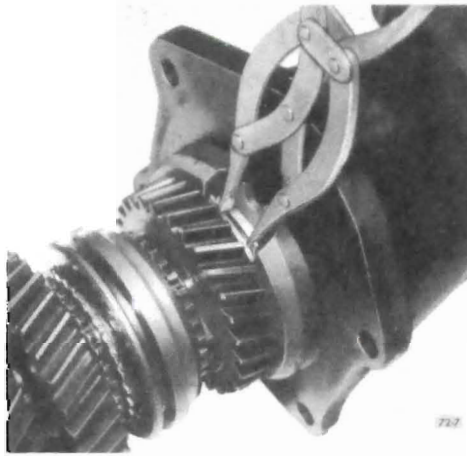

Figure 72-35 - Installing Rear Bearing Retainer
4. Install the rear bearing retainer. Spread snap ring in the retainer to allow the snap ring to drop around rear bearing. See Figure 72-35. Press on end of mainshaft until the snap ring engages groove in rear bearing.